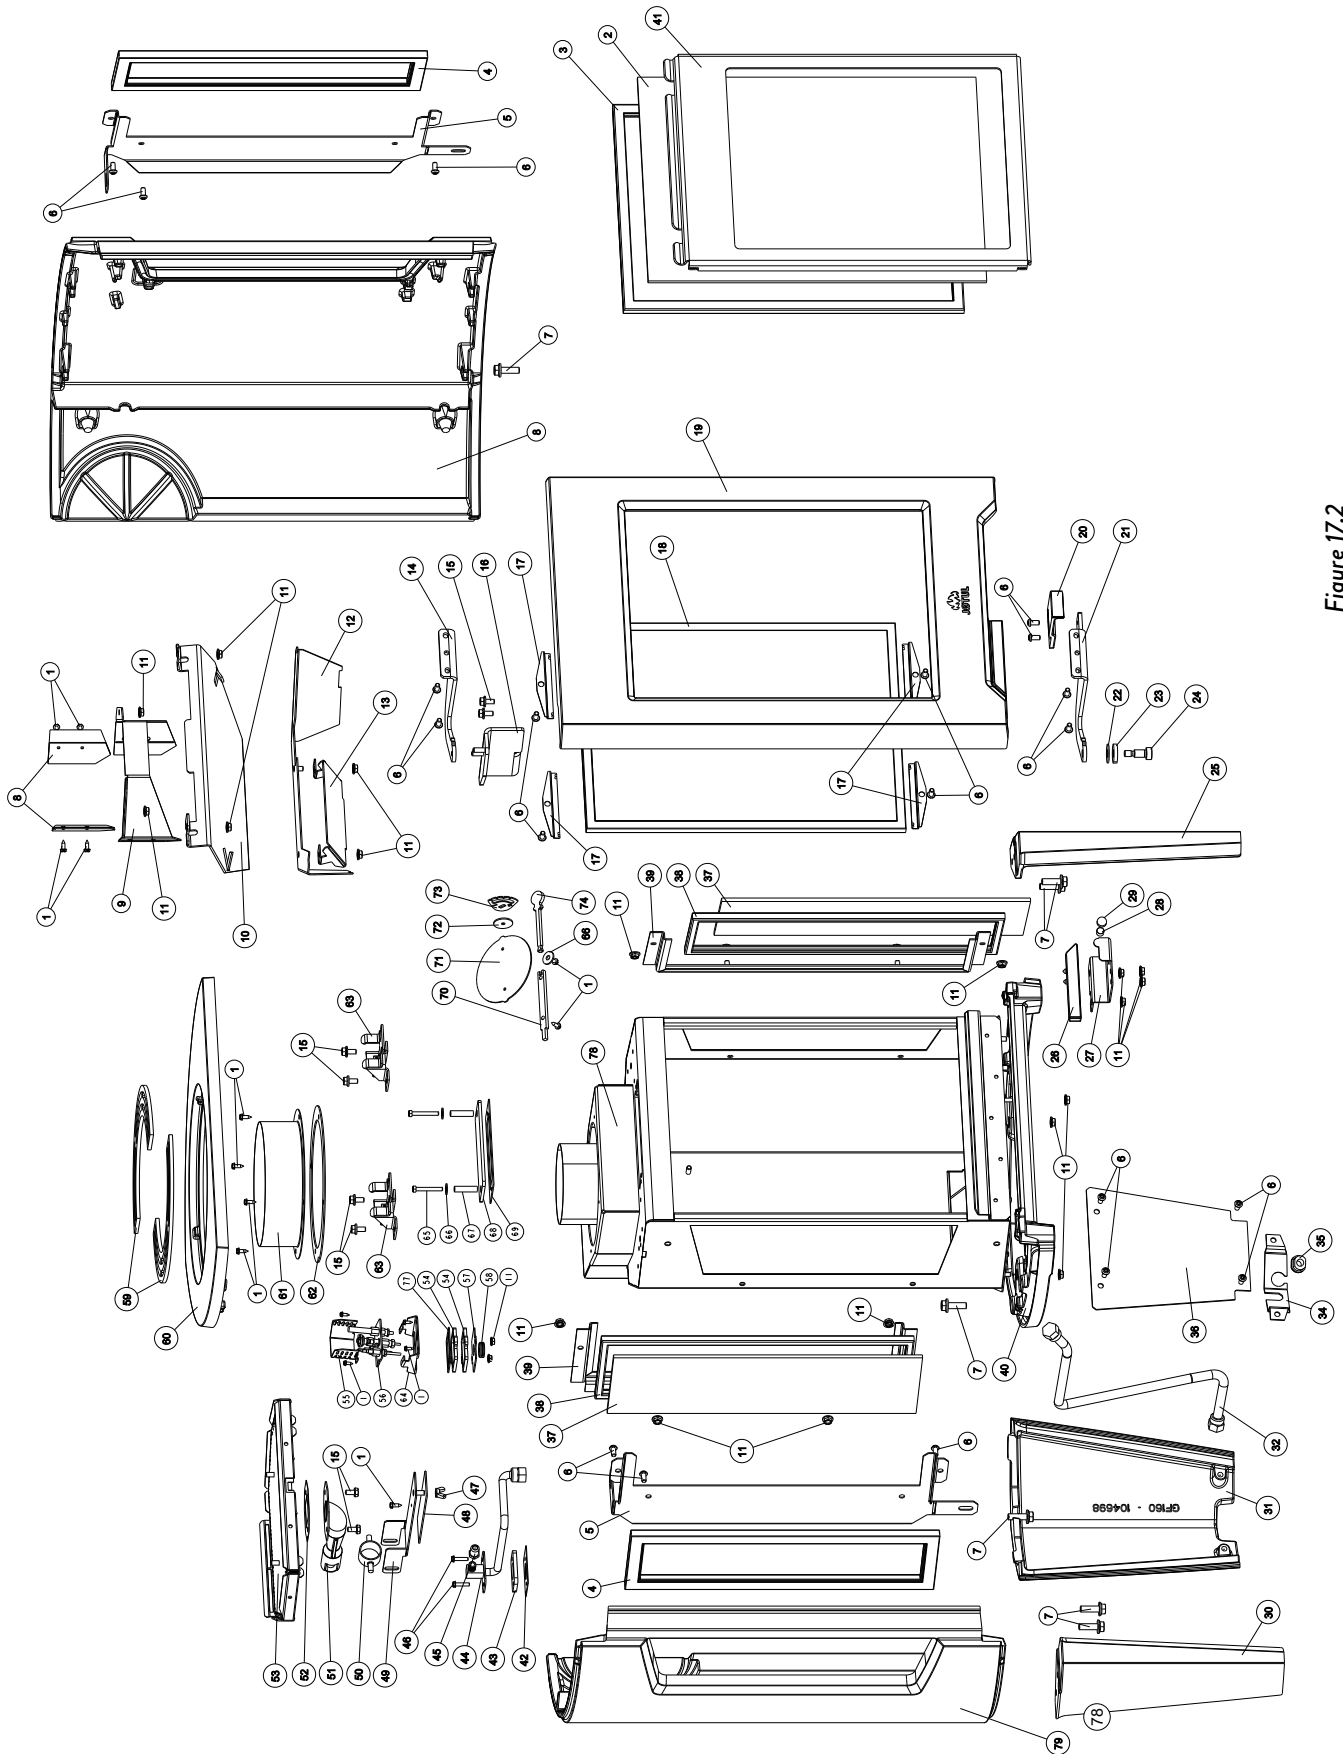

Figure 17.2
5. **Remove the Exhaust Baffle,** (#10, fig. 17.2) from the firebox with removal of two, 10 mm hex nuts, #11. See also Fig. 7.3, page 16.
- Refer to fig. 16.3 and fig. 17.2 to locate the M8 hex bolt, #7, that attaches the cast iron Side Plate to the stove Base Plate, #40.